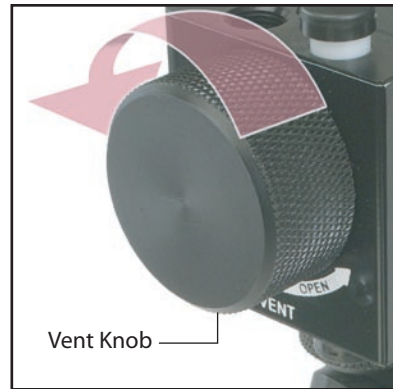

Figure 1
- 1 Remove the vent knob by unscrewing it fully counter-clockwise (**figure 1**).